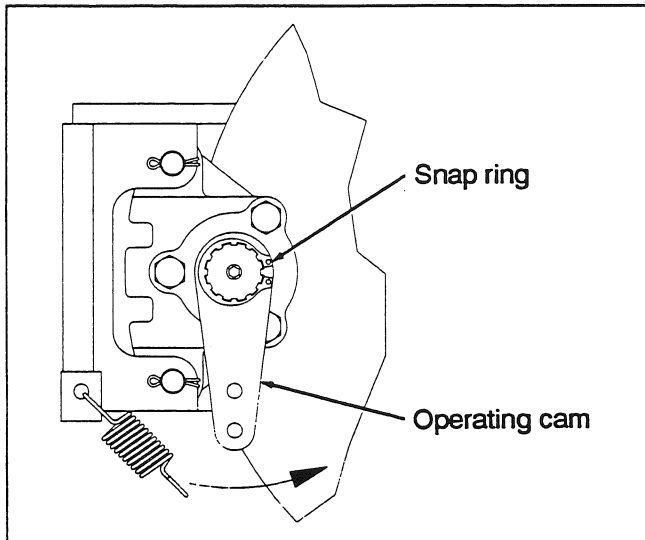

Fig. 44
11. Place the casting and pad and holder assemblies into position at the bracket. Install the mounting pins (36) and secure with new cotter pins (35).
12. Check to see if the operating cam is positioned as shown in Fig. 44. If not, remove the snap ring and reposition the operating cam. Install the snap ring.